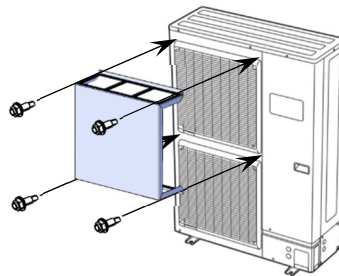

Figure 2
- (1) Center the wind baffle both vertically and horizontally over the upper fan cover as shown in Figure 2. Make sure that the wind baffle does not cover the service panel.
- (2) Mark the screw hole positions in each flange by drilling.
- (3) Using the self-tapping screw provided, locate and secure the wind baffle as shown in Figure 2.